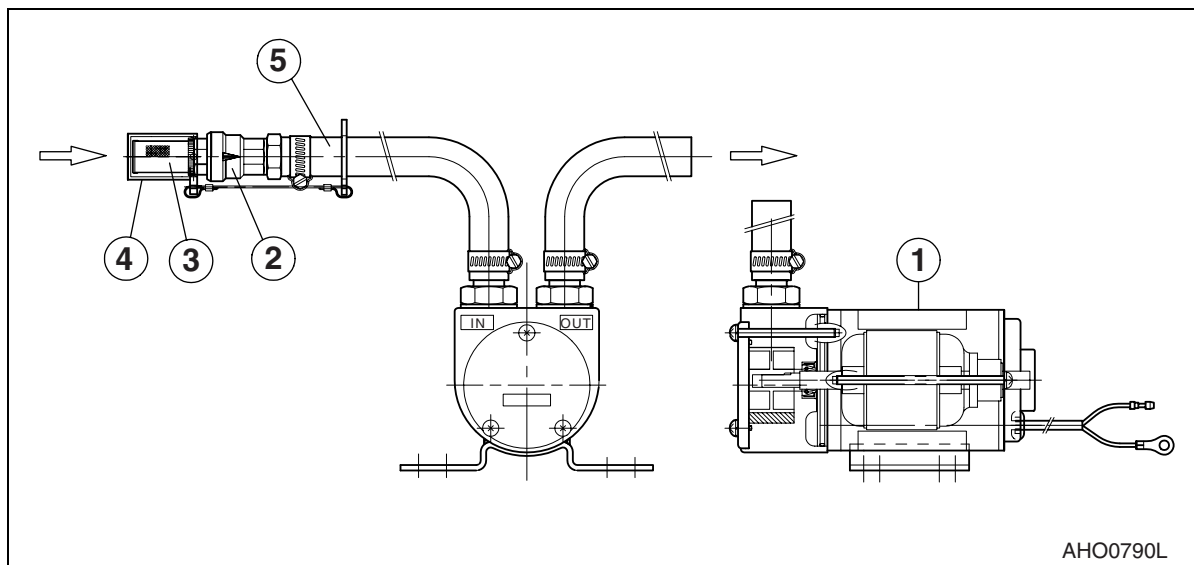

Figure 100
1. Remove strainer cap (4, Figure 100) from inlet hose.
2. Insert inlet hose (5, Figure 100) into refueling tank.